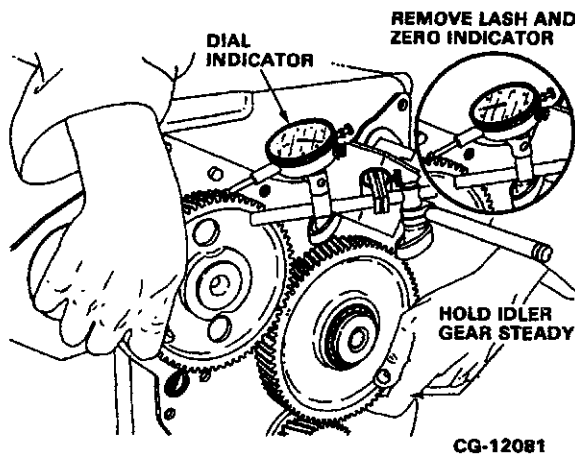

Figure 5.15. Measure Camshaft Gear Backlash
- Prior to camshaft removal, mount a magnetic base dial indicator on the front of the engine and check camshaft gear backlash (Figure 5.15).